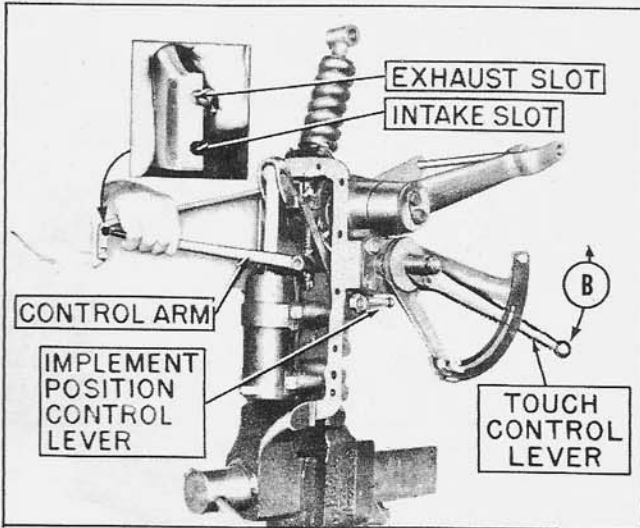
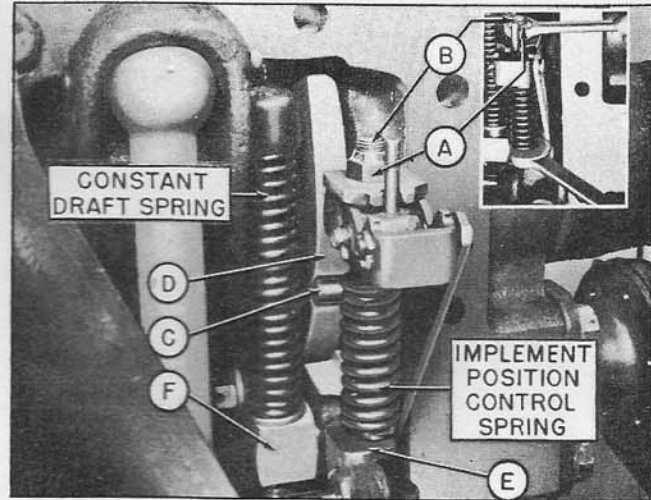

Figure 6
Figure 7
Figure 6, until the ball on the end of the control arm moves from the intake slot in the lower bracket to the exhaust slot as shown in insert, Figure 6 with approximately a four pound pull exerted on it.
- b. Move the implement position control lever to its full-up position as shown in Figure 6. This will engage the implement position control linkage.
- c. When the implement position control linkage is engaged the pin (C), (see Figure 7) contacts the cam (D) and the lower end of adjusting bolt (B) touches the flat boss (E) on the control arm when the swivel (F) is in contact with the constant draft spring. The spring will be set to its proper length when these three points of contact—D, E, and F, the pin touching the
cam, the swivel touching the collar on the constant draft spring and the lower end of the implement position control spring resting on the flat boss on the control arm—are made when the control arm is resting in the exhaust slot of the lower bracket. See Figure 6. Should it be necessary to adjust the length of the implement position control spring, loosen the locknut (A) and turn the adjusting bolt (B) as shown in the insert, (see Figure 7.)